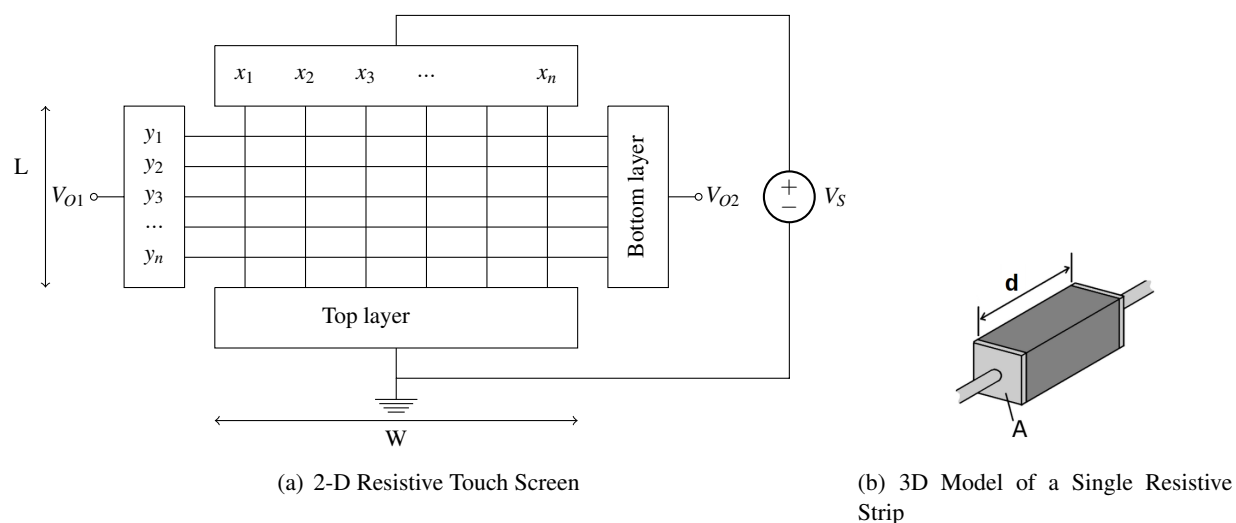

Figure 1: Model and components of a general touchscreen
In this question, we will be re-examining the 2-dimensional resistive touchscreen previously discussed in both lecture and lab. The general touch screen is shown in Figure 1 (a). The touchscreen has length L and width W and is composed of a rigid bottom layer and a flexible upper layer. The strips of a single layer are all connected by an ideal conducting plate on each side. The upper left corner is position $(1, 1)$.
Assume that all top layer resistive strips and bottom layer resistive strips are spaced apart equally. Also assume that all resistive strips are rectangular as shown by Figure 1 (b).
- (a) Figure 1(b) shows a model for a single resistive strip. Find the equivalent resistance R_x for the vertical strips and R_y for the horizontal strips, as a function of the screen dimensions W and L , the respective resistivities, and the cross-sectional area A .
- (c) Suppose a touch occurs at coordinates (i, j) in Figure 1(a). Find an expression for V_{O2} as a function of $V_s, N, i,$ and j . The upper left corner is the coordinate $(1, 1)$ and the upper right coordinate is $(N, 1)$.